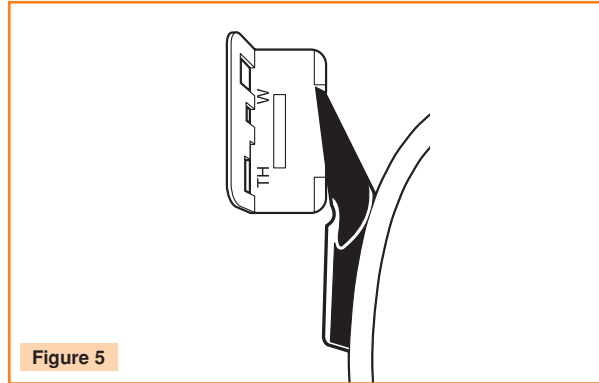

Figure 5
**6. Check gaff profile/contour with Klein gaff gauge.** For pole and tree gaffs, place the side of the gaff along the front edge of the gauge with the gaff point resting in the notch. The point should follow the configuration of the gauge to assure the proper “rounding off” of the tip within 1/4” (6.4 mm) of the point. (See Fig. 5)